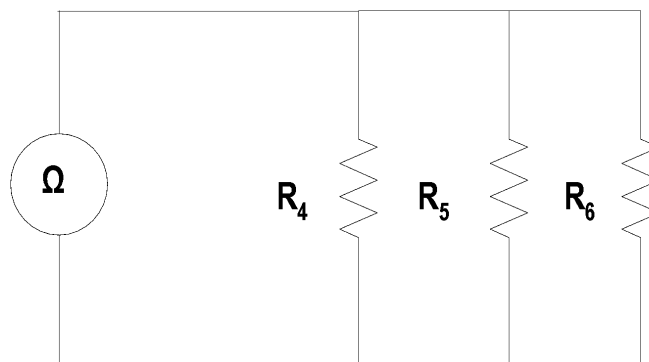

Figure 3.4 – Cold Resistance Measurement of Electric Conductors in
- 2.1 Connect the three (3) resistors based on Figure 3.4.
- 2.2 Then measure and record the cold resistance of each conductor and the equivalent resistance on Table 3.4 based on Figure 3.4.